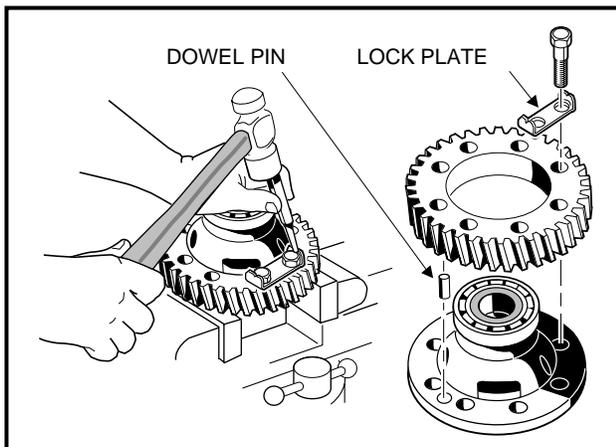

Figure 16-17 Lock Plate (Type K Only)
- 9.1. **Type K transaxles:** Bend the bolt lock plates (29) down onto the ring gear (30) (Figure 16-3, Page 16-3). See also Figure 16-17, Page 16-10.
- 2.4. Bend the edges of the bolt locking tabs securely against the flats of the bolt heads to prevent the bolts from loosening and possibly causing damage (**Figure 16-17, Page 16-10**).